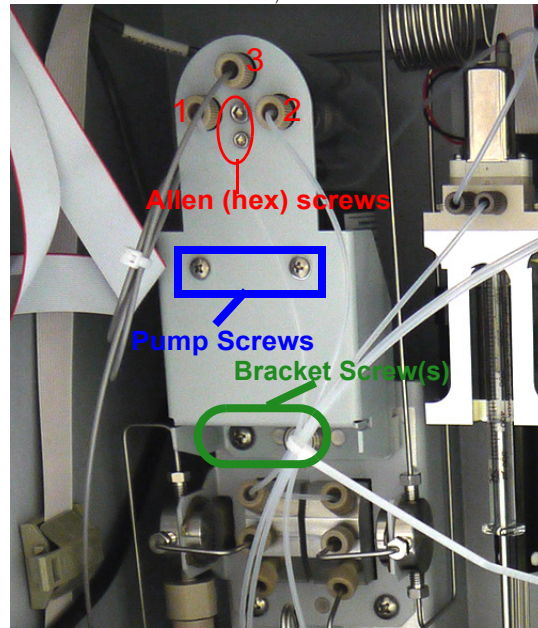

Figure 72: Tubing Connections and Screw Placement
1. Attach the pump head and motor to the pump bracket securing with the pump screws (Figure 72).
2. Attach the degasser to the top of the pump bracket securing with the large and small Allen (hex) screws (Figure 72).
3. Attach the ICR bracket to the Analyzer using the one (or two) bracket screws (Figure 72).
4. (Reconnect the three knurled-nut tube connectors (1, 2, and 3 in Figure 72) to the degasser. The restrictor tubing from the chemical trap goes into position 3.